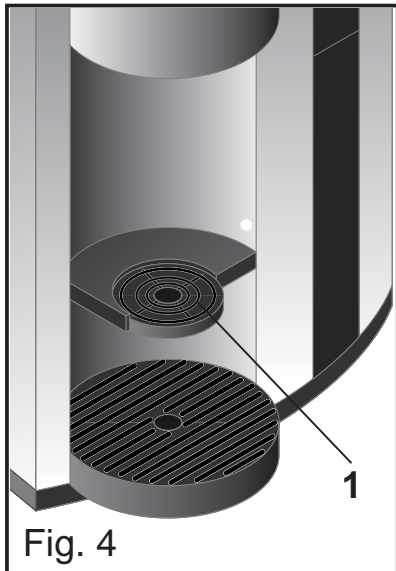

Fig. 4
When the pot is removed the cup carrier (1) automatically swings back into its original position. (Fig. 4)